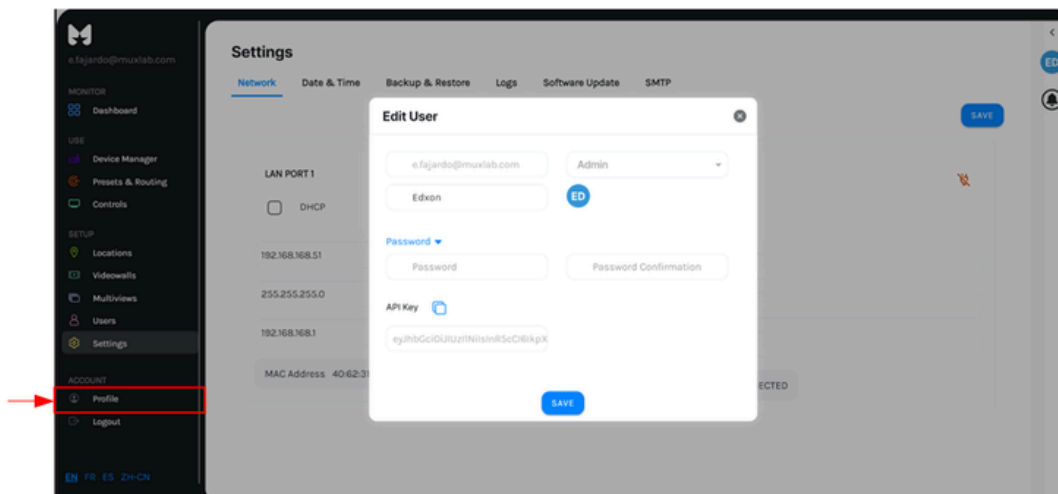

**Figure 55**
3. Backup & Restore: On this page the user will be able to: A.) create a backup of the unit data that you can use to restore the unit data at any time, or duplicate your configuration to another unit, B.) restore the unit data from a previous backup, and C.) reset the device to factory settings, including network settings. Figure 55